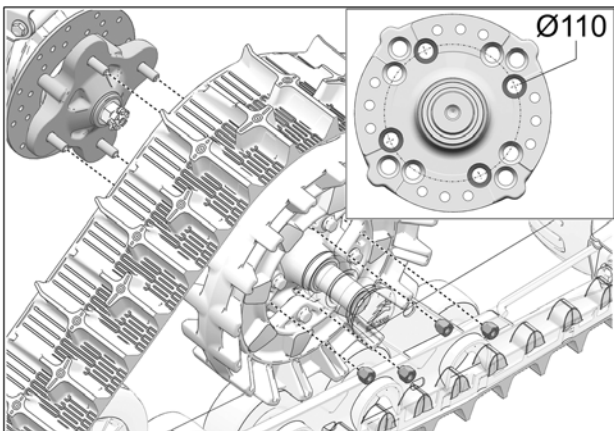

Fig. 19
8. Secure undercarriage to front hub using the vehicle's own lug nuts. Use bolt circle  $\varnothing 110$  mm. See Fig. 19